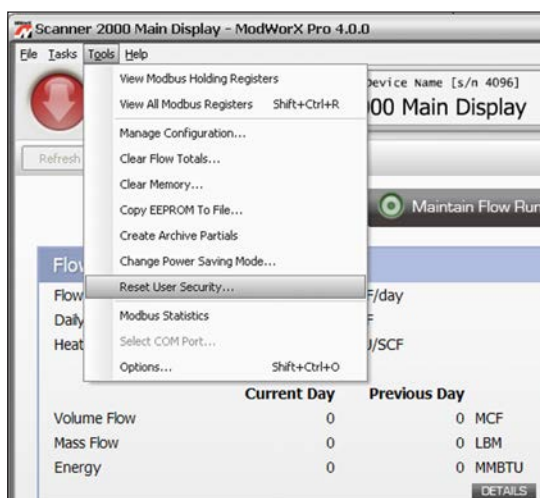
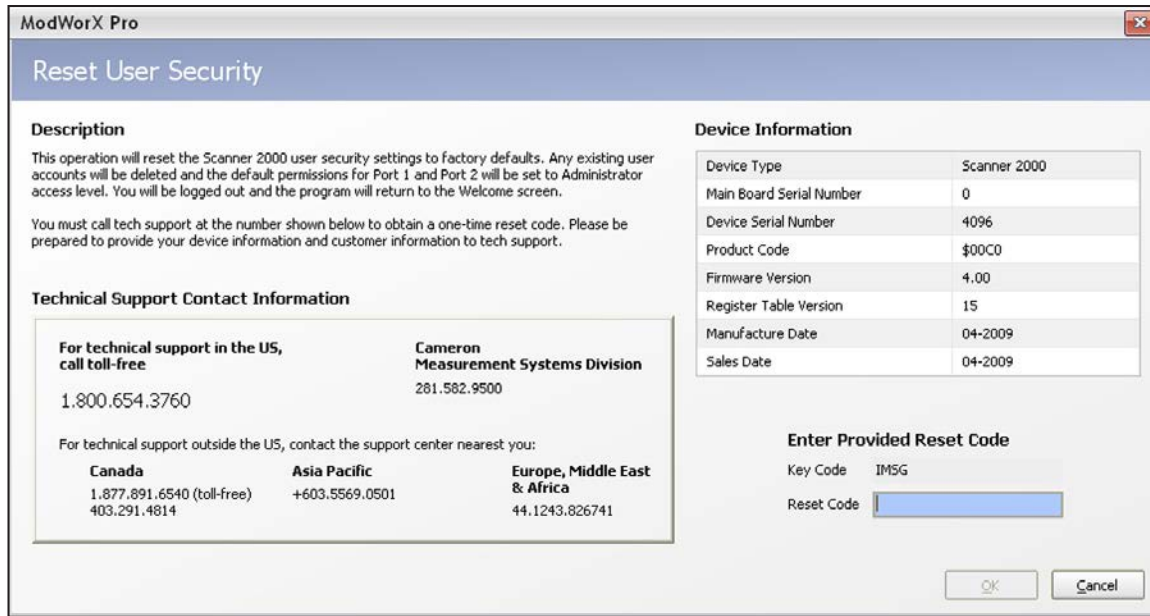

Figure A.13
Figure A.14
1. Click **Tools>Reset User Security** in the task bar (Figure A.13). The Reset User Security screen shown in Figure A.14, page A-10, will appear. Note that the device serial number and key code are displayed on this screen. You will be asked to provide both numbers during the reset process.